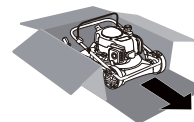

Fig.2
1. Cut down two end corners of box. (Fig. 2) and lay end panel down flat.